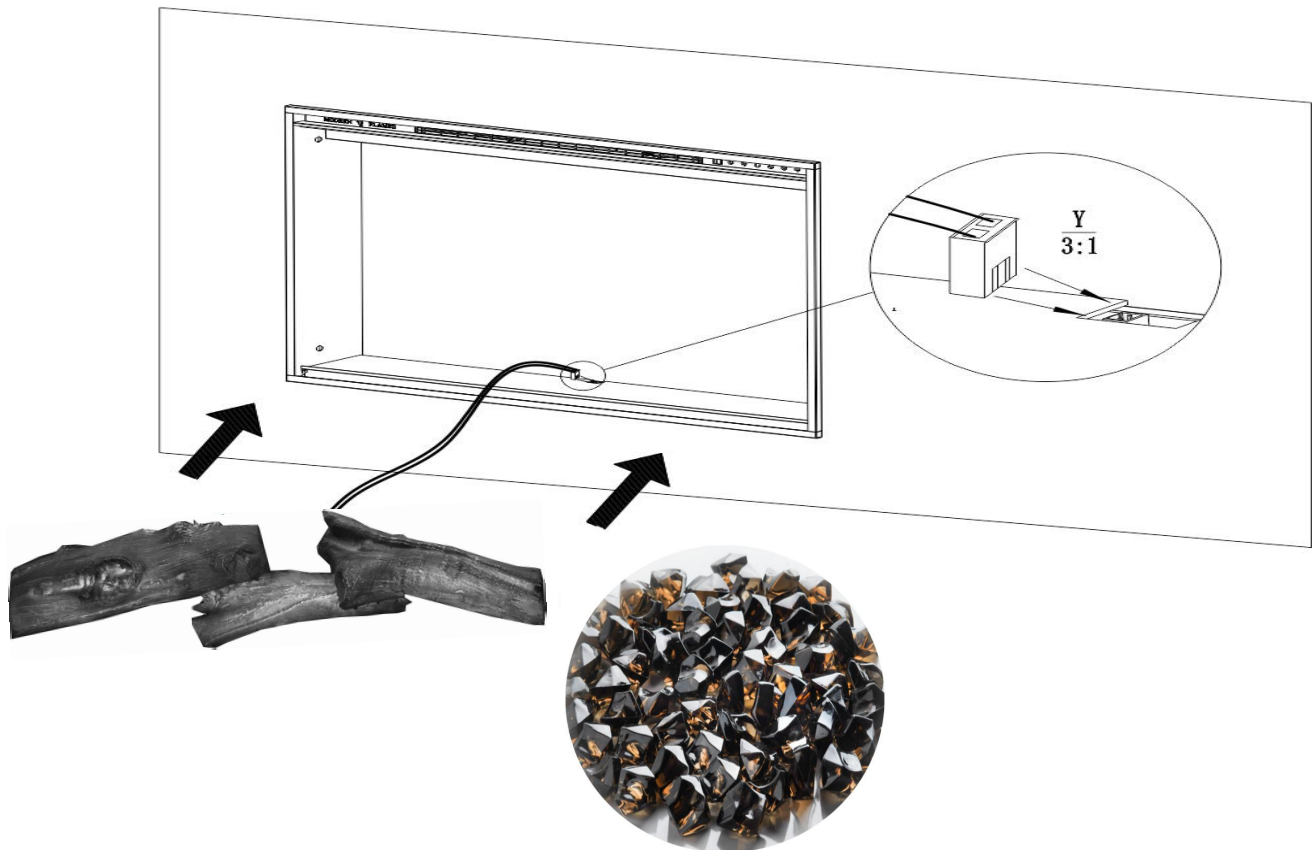

Fig.4-1
- Install logs first. Connect log-set (D) by plugging the connector to the socket as shown below.
- Carefully place smoked crystals (E) onto the ember bed strip as Fig.4-1. Apply an even layer from side to side.